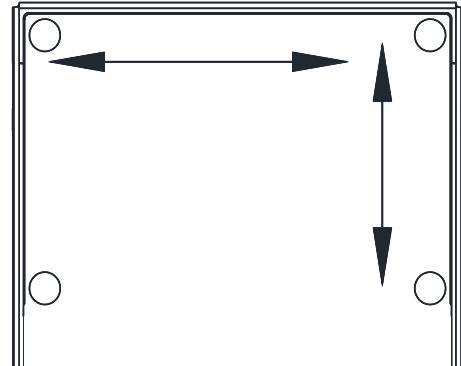
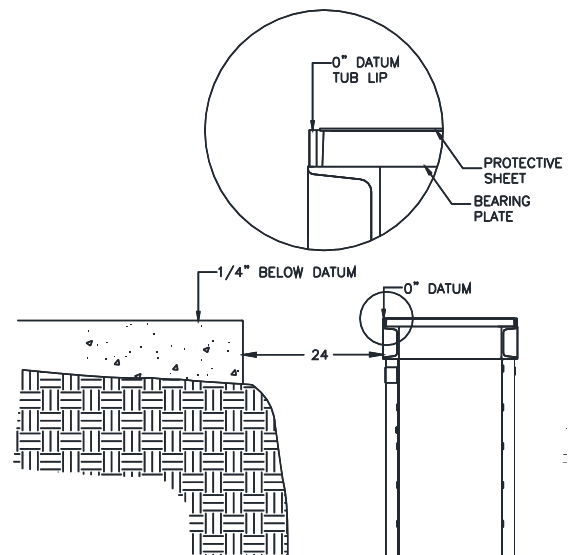

Fig 6 – Leveling Bearing
Fig 7 – Lift Elevation
4. Plumb and level using a machinist level on top of each protective sheet above the bearing plate. Level in several directions using the nuts on the threaded rods to lower and raise each corner where needed. See Fig 6. The top of the tub needs to be at least 1/4" higher than the floor. Do not measure from the top of the bearing plate or Protective Sheet, but only the tub lip. See Fig 7
- Recheck plumb and elevation, then begin back fill with concrete from short sides of lift. A 3000psi concrete mix should be wet to allow it to flow under and around the lift. Pour until concrete covers the bottom four inches of the cassette and allow 12-hours set up time. See **Fig 3 and Fig 6**.
- Recheck plumb and backfill with 3000psi concrete approximately 3ft, and once again recheck plumb. Allow time to set up before moving to next step. See **Fig 3 and Fig 6**.
18. Thread 9/16-18 O-ring elbow (*in hardware box*) into power unit. Attach free end of power unit hose to elbow. See **Fig 7**. **CAUTION** do not damage rubber O-ring.